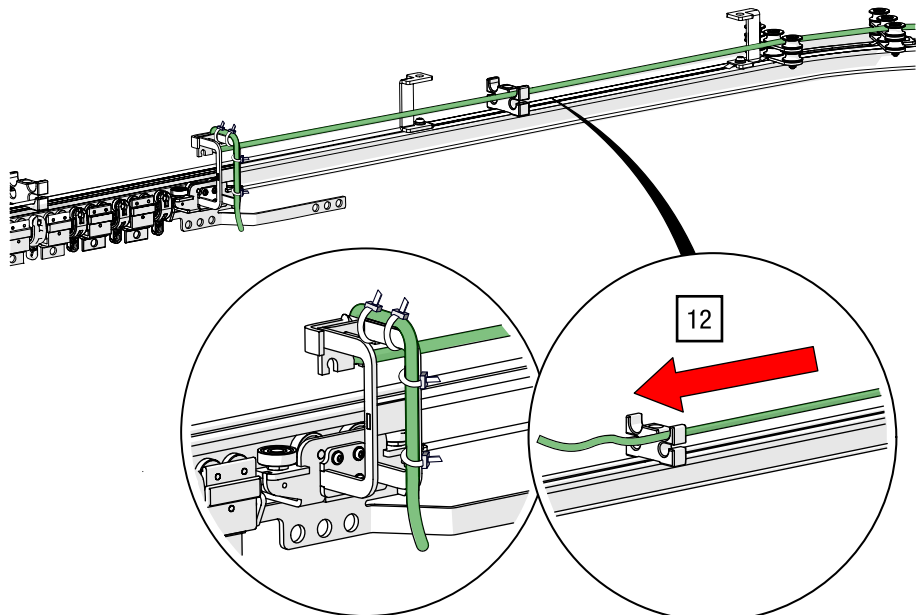

Fig. 111: Double top cord operation – Cord guide on one side in master runner
12. Guide the end of the cord through the following cord guides and into the clamping unit on the master runner on one side and secure it with four tie wraps (see Fig. 111).